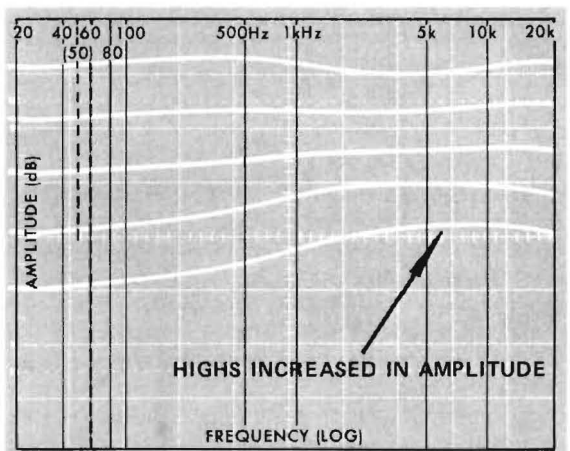

Figure 17 Response Action of Dolby "B" Encoder
2. The action of a Dolby B system encoder or decoder can be checked or noted by sweeping the device each time as the input level is reduced by 10 dB steps (Figure 17).